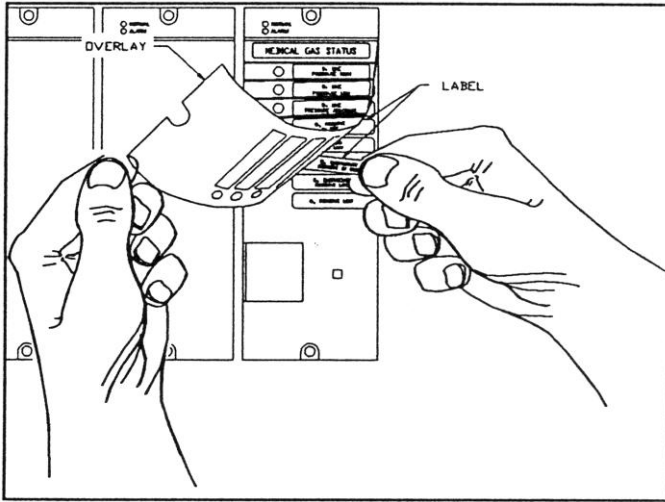

Figure 15 – Label Installation
- 4.2.11.2 Lift the overlay of each Pressure/Vacuum Module and label it with the appropriate Gas Service Label (see Figure 15). Double-sided tape is provided at the bottom of the module. The installer is to remove the protective cover off the tape, then press down on the overlay.
- 4.2.11.3 Lift the overlay of each Eight-Signal Module (see Figure 15) and label it with the Main Eight-Signal label and the Remote Signal Labels. Double-sided tape is provided at the bottom of the module, the installer is to remove the protective cover off the tape, then press down on the overlay.